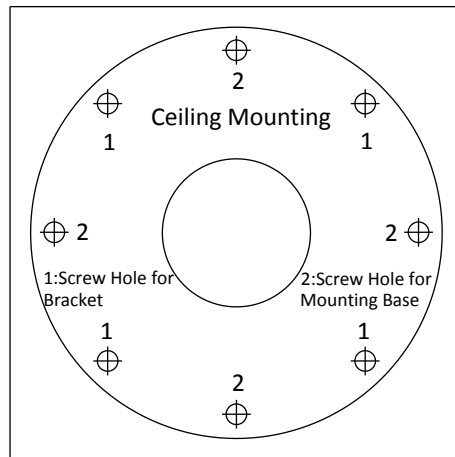

Figure 4-28 Drilling Holes in the Wall
2. Drill holes in the wall according to the No.2 holes of the drill template. Refer to the Figure 4-28.